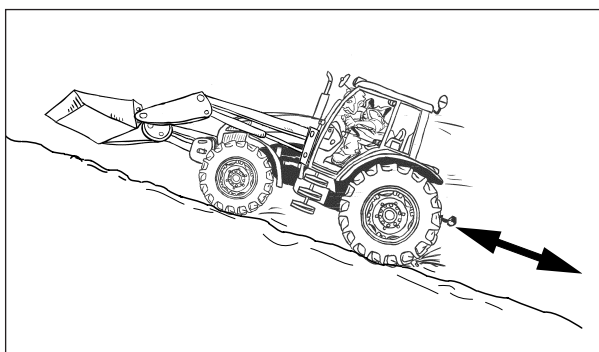

Fig.2-31b
- A tractor with a loaded front-end (e.g. loader, bucket etc.) and without a rear trailer should be backed down the slope and travel forward uphill. Always keep the loader bucket as low as possible. (Fig.2-31b)